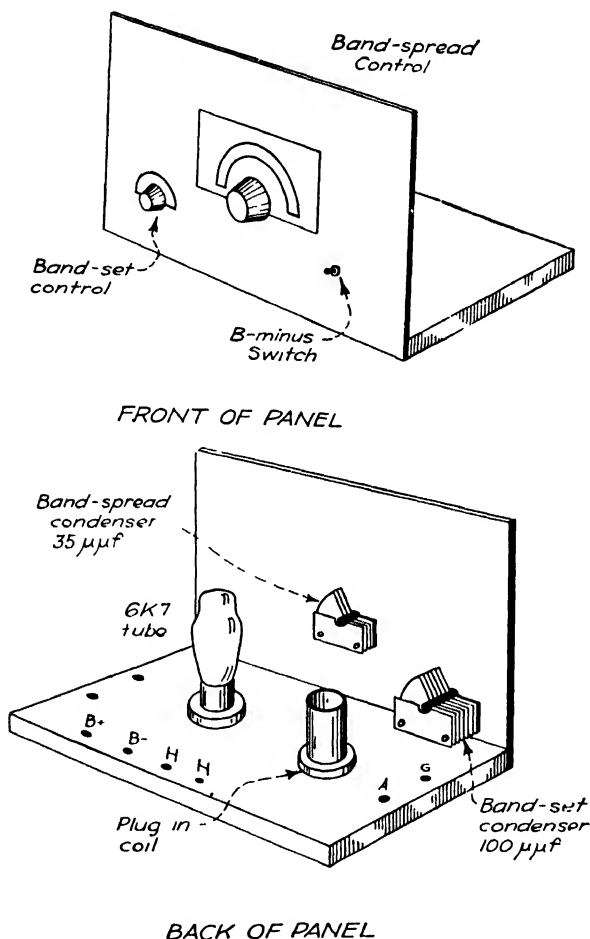

FIG. 362. The radio-frequency amplifier for the short-wave receiver. This shows the arrangement of the panel and of the parts on the base.
You will find it convenient to build this set first in three units. Mount the detector and the audio amplifier on one baseboard and the radio-frequency amplifier on a second baseboard (see Fig. 362). The power supply is a separate unit. This scheme allows you to get the detector-amplifier set in efficient operation before you attempt to build and line up the radio-frequency amplifier. The circuit is laid out breadboard style so that you can experiment with it easily. The parts are separated enough to avoid feedback from coupling between stray radio-frequency or magnetic fields.
Place the parts of this set as shown in the board layout (see Fig. 362), with the radio-frequency coil far enough from the detector coil to prevent feedback and poor tuning. The plug-in coils seldom need shielding unless you are working with an extremely sensitive receiver. A coil shield may even be harmful. If the shield is too close to the coil (too small in diameter), the metal
Place the parts on the baseboard as shown in the board layout (see Fig. 362).
Step 2. Tune the detector band-set condenser (see Fig. 362) until you hear the carrier whistle of a station. You will probably tune through a group of whistles, because this large condenser cannot be set accurately on any one signal.